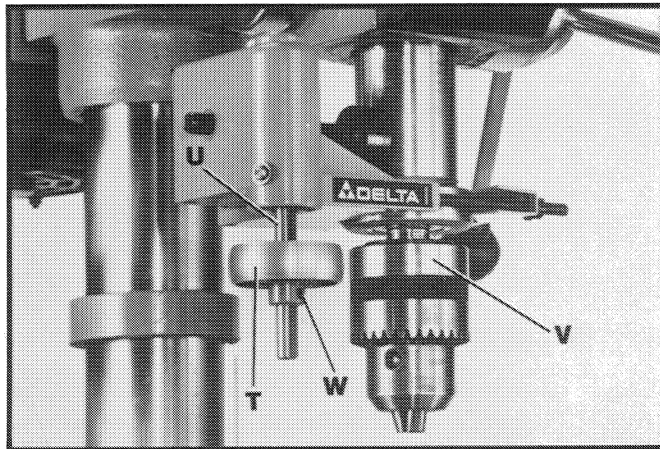

Fig. 14
12. Assemble pulley (T) Fig. 14, to gear box shaft (U), as shown. Line up pulley (T) with top of chuck sleeve (V) and tighten set screw (W) against flat on gear box shaft (U).